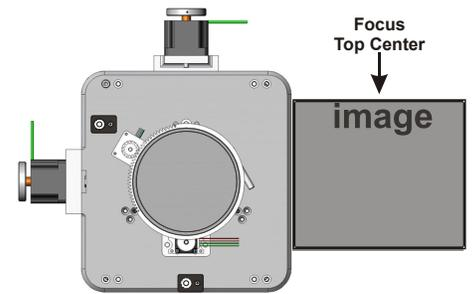

Figure 2-41 Adjust Vertical Boresight
8. Adjust the **Vertical Hold Screw** to lock the lens mount in place. Check boresight again. See **Figure 2-41**.